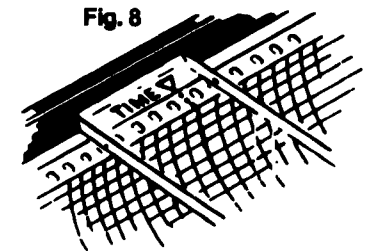

Fig. 8
6. Line up time arrow (see fig. 8) with any line on the left of the chart paper.
8. Mark time of start on strip chart. See fig. 8.